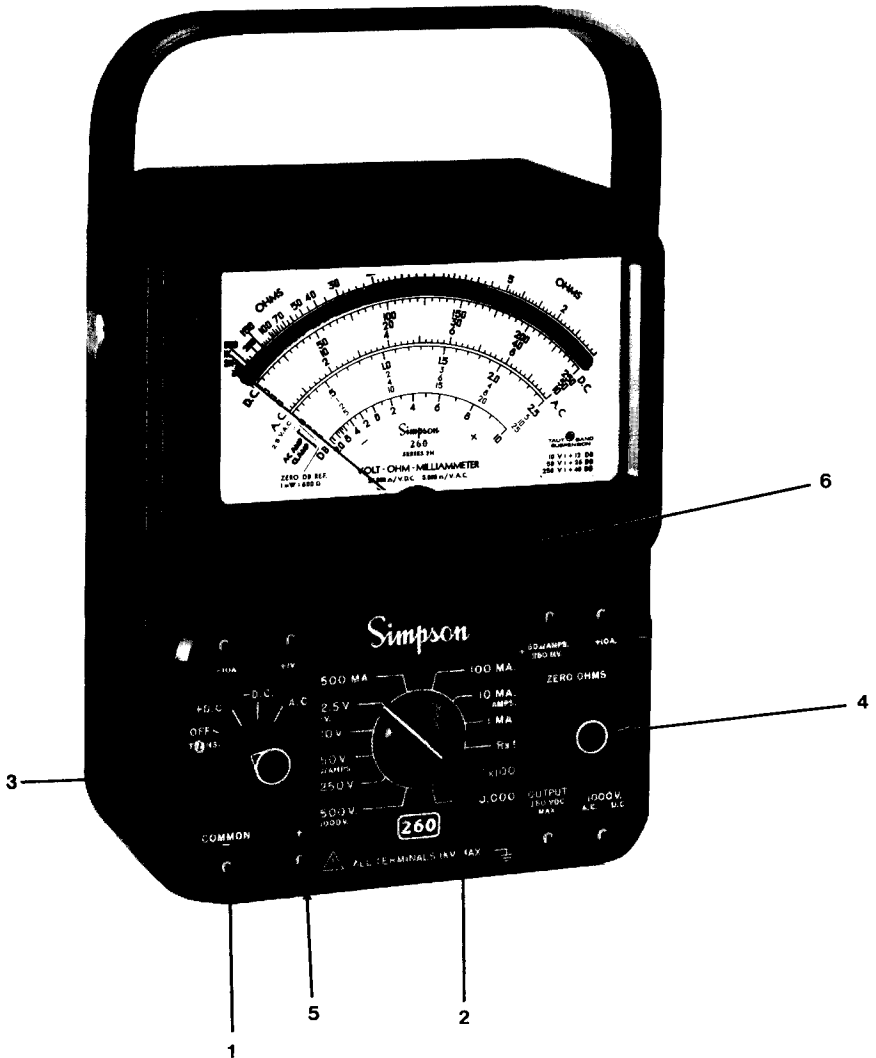

FIGURE 3-1. FRONT PANEL CONTROLS, JACKS AND INDICATORS
NOTE: The items called out in Figure 3-1, correspond with the numerical order of the items listed in Table 3-1.
5. **Circuit Jacks:** There are eight jacks on the front panel marked with the functions they represent (Figure 3-1). These jacks provide the electrical connections to the test leads. The COMMON (—) jack is used (in conjunction with the black test lead) as the reference point for the measurement of all the functions with the exception of the 10A range. (Refer to the Operation Section for details.)